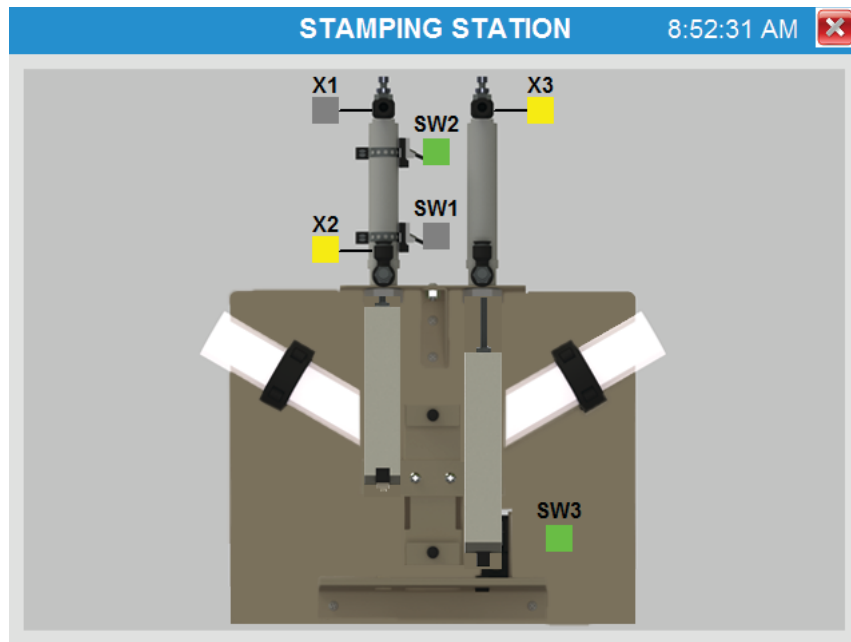

Figure 113. Running the HMI program.
26. Load and run the HMI program on the touch screen. The program should resemble Figure 113. If errors show up on the screen, check connectivity with the PLC and verify the tags you used in the PLC program.